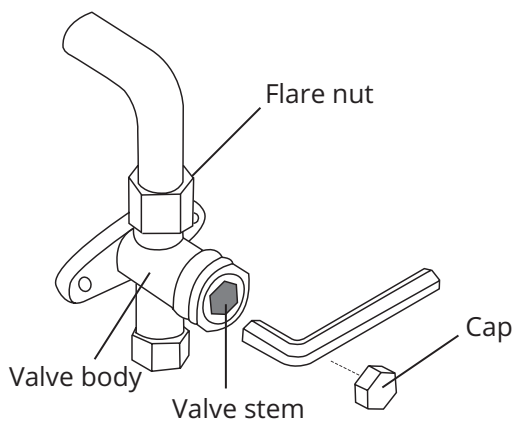

Fig 9.3
- 9. Release refrigerant** (See Fig. 9.3) Release refrigerant into the lineset by opening the larger (gas side, or suction) lineset valve fully. Then open the smaller (liquid side) lineset valve fully. NOTE: do not force valves open past the point it stops turning under normal hand pressure.